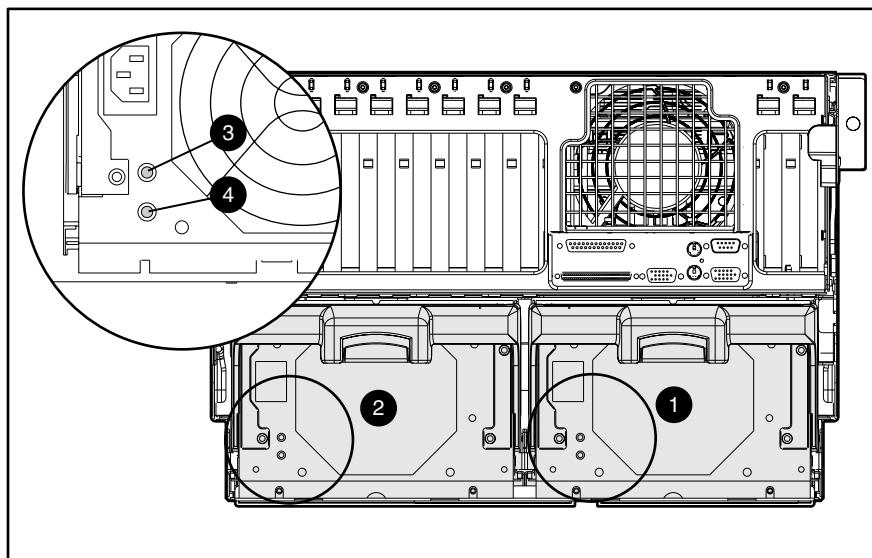

Figure 4-10. Power supply LEDs
Figure 4-10 and Table 4-9 show the location of power supply 1 ① and power supply 2 ② with a description of both power supply LED indicators.